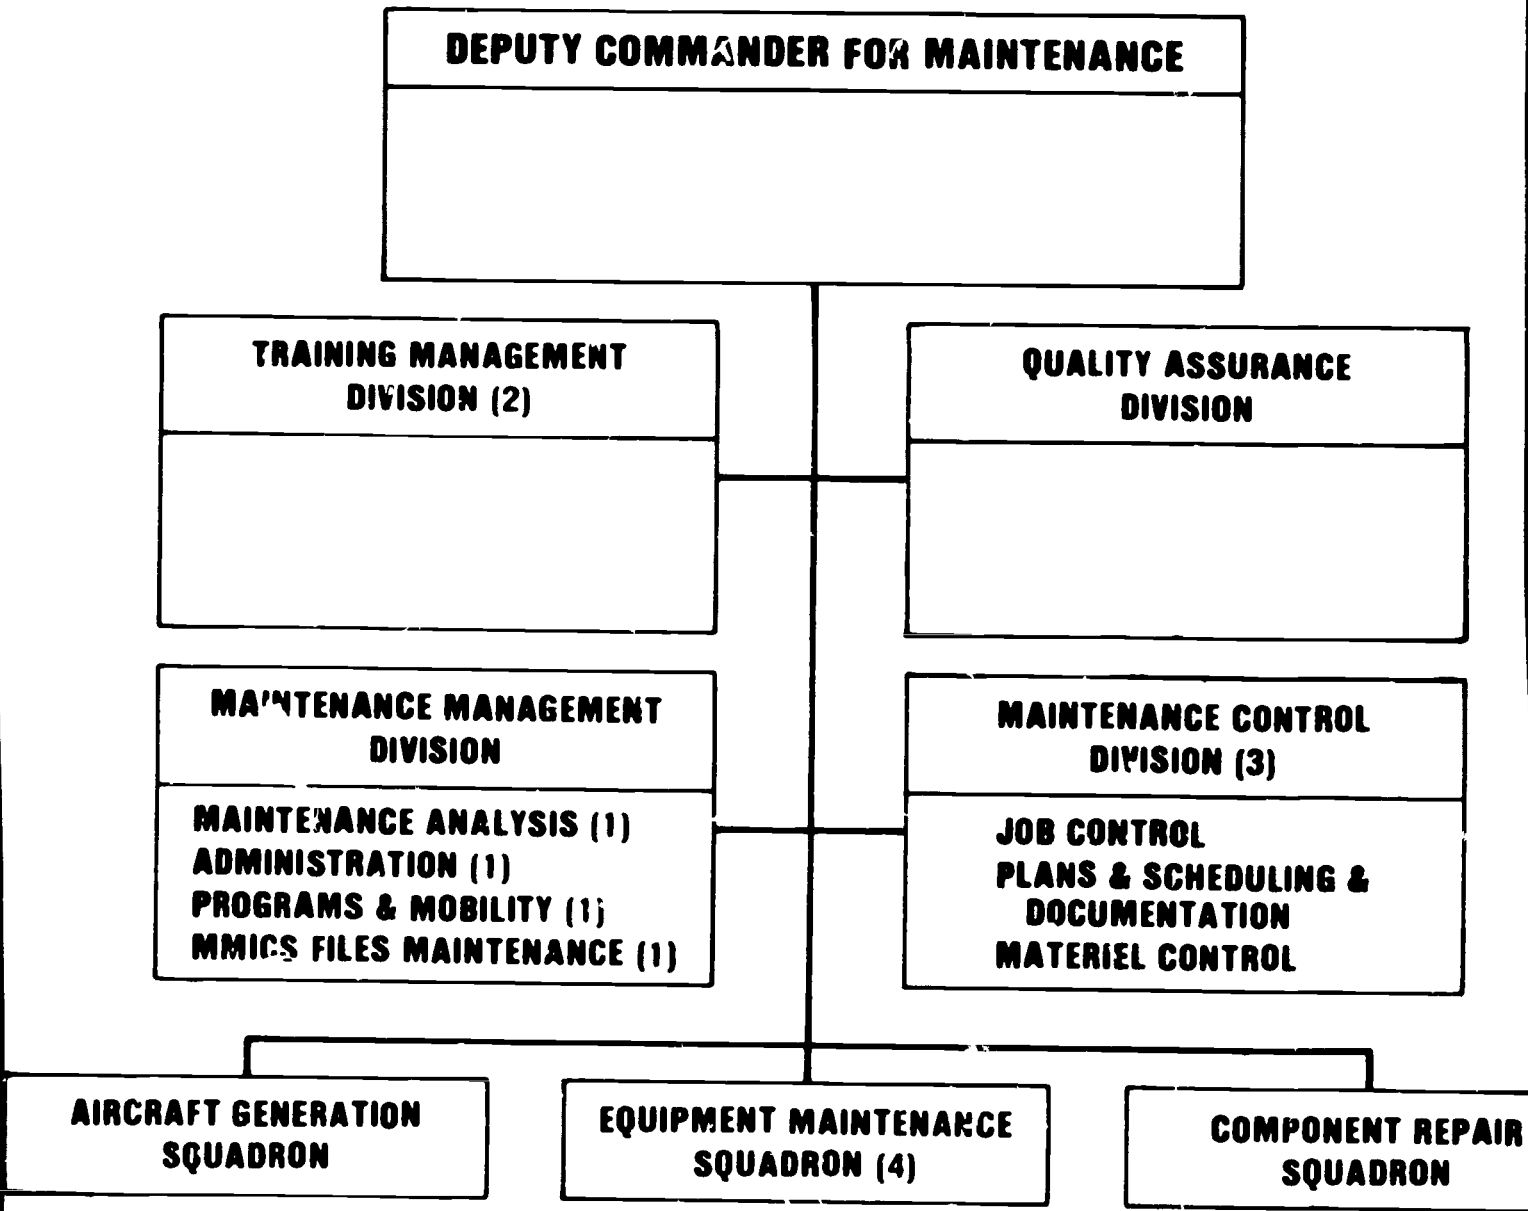

Figure 4-2 Deputy Commander for Maintenance (POMO)
**Organizational Arrangement—*POMO*.** The organizational arrangement of a *POMO* consists of three main squadrons. These squadrons are the Aircraft Generation Squadron (AGS), the Component Repair Squadron (CRS), and the Equipment Maintenance Squadron (EMS). Figure 4-2 shows the arrangement of the various parts of a *POMO*. What each of these squadrons is required to do is directly related to the type of maintenance that it is responsible for. This will also show you where you can possibly be assigned.